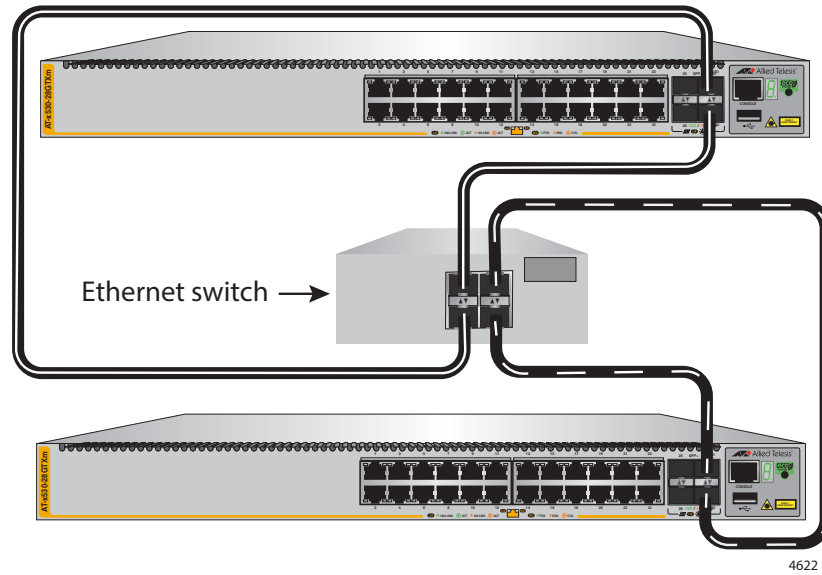
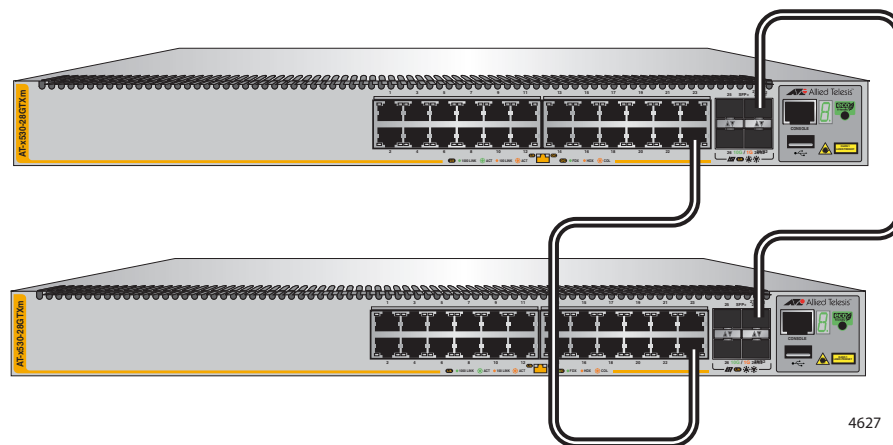

Figure 26. Invalid Stack Trunk with an Intermediary Networking Device
Figure 29. Invalid Stack Trunk with Different Port Types
Figure 26 through Figure 29 on page 77 show examples of different types of invalid stack trunks.
**Example 1** Stack trunks must be direct links between trunk ports. There cannot be any intermediate networking devices, such as media converters, Ethernet switches, or routers, between trunk ports. Figure 26 is an example of this type of invalid trunk.
**Example 4** Trunk ports of a stack must all be the same type. The trunk in Figure 29 is invalid because it has both 10Gbps SFP+ and 5Gbps multi-speed ports.